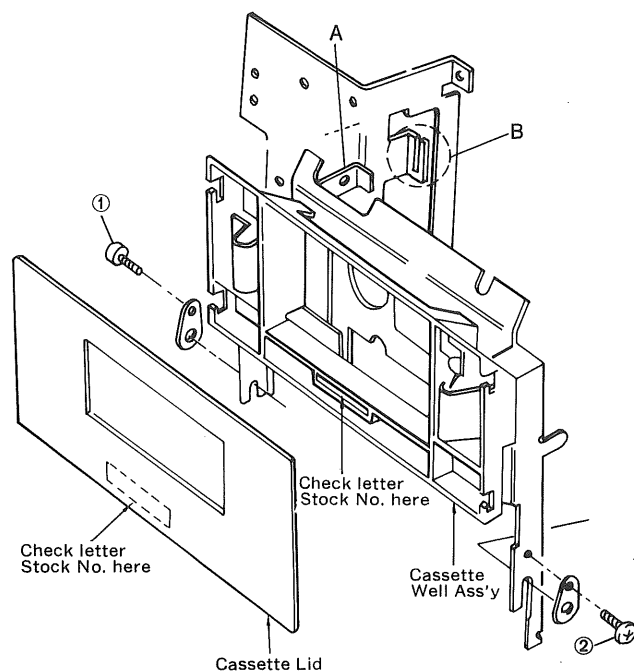

Fig. 9-2 Type A Cassette well & Cassette lid
### 9-2. Replacement of Cassette Well Ass'y (See Fig. 9-2)
2. Remove screws ① and ② on both sides in Fig. 9-2.
3. Move up the retainer (A), then release it from (B).